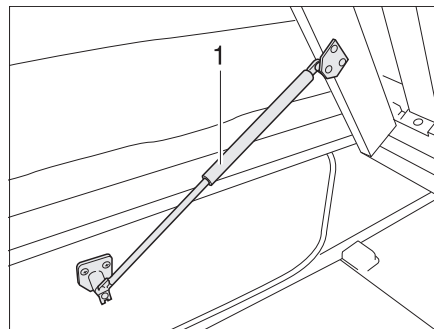

Fig. 171 Fixed bed
■ Lift slatted frame. The gas-pressure springs (Fig. 171,1) hold the slatted frame open.